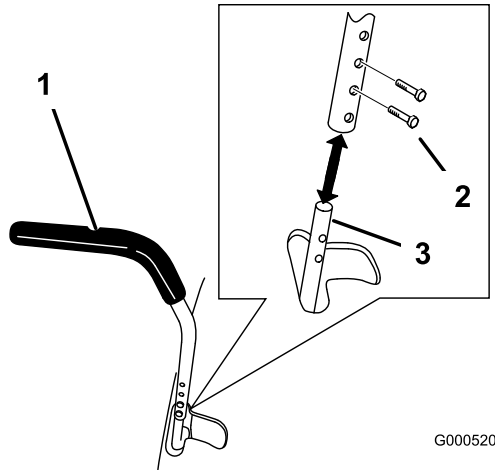

Figure 22
1. Remove the 2 bolts holding the control lever to the control arm shaft (Figure 22).
2. Move the control lever to the next set of holes. Secure the lever with the 2 bolts (Figure 22).